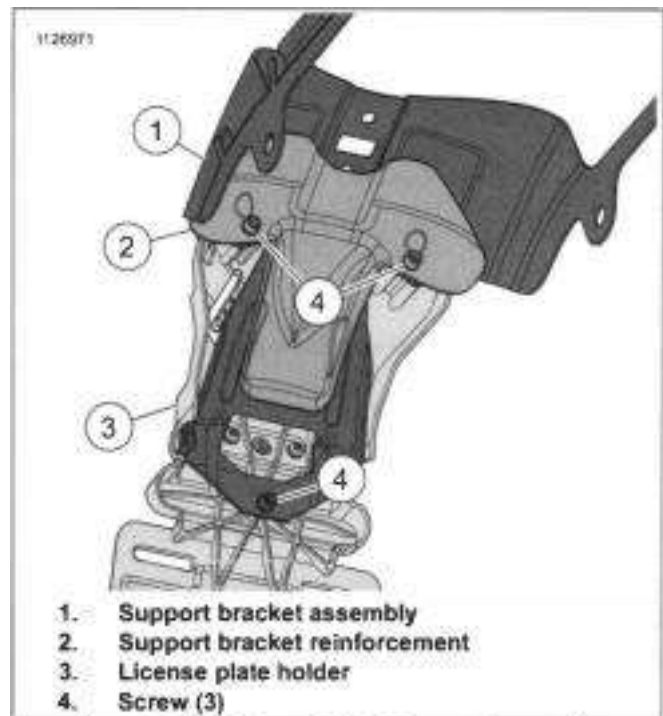

Figure 3-142. License Plate Support Assembly
3. See Figure 3-142. Remove center mount licence plate holder.
- a. Remove screws (4).
- b. Disassemble license plate holder (3), support bracket assembly (1) and support bracket reinforcement (2).
1. See Figure 3-142. Install center mount licence plate holder.
- a. Assemble license plate holder (3), support bracket assembly (1) and support bracket reinforcement (2).
- b. Install screws (4). Tighten.